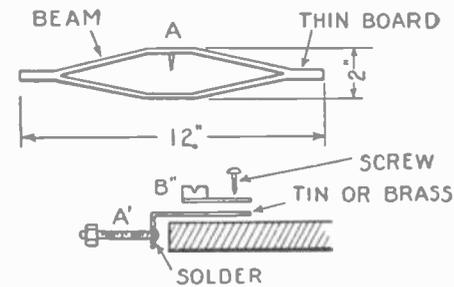

FIG. 2
Now, the beam must be made. This is cut from a single piece of thin board to the shape and size shown in Fig. 2. On the upper side of each end is fastened a brass bearing and a balancing screw. Those parts must be of the same weight so that the beam will balance. The bearing (A) is made of a section of safety razor blades soldered to a thin strip of metal and screwed to the under side of the center of the beam, as shown. Fig. 5 shows how the beam sits on the bearing, the under side passing through the slot in the upright. Do not screw the main bearing to the upright until the last thing, as the beam cannot be removed once it is in place (see Fig. 5).